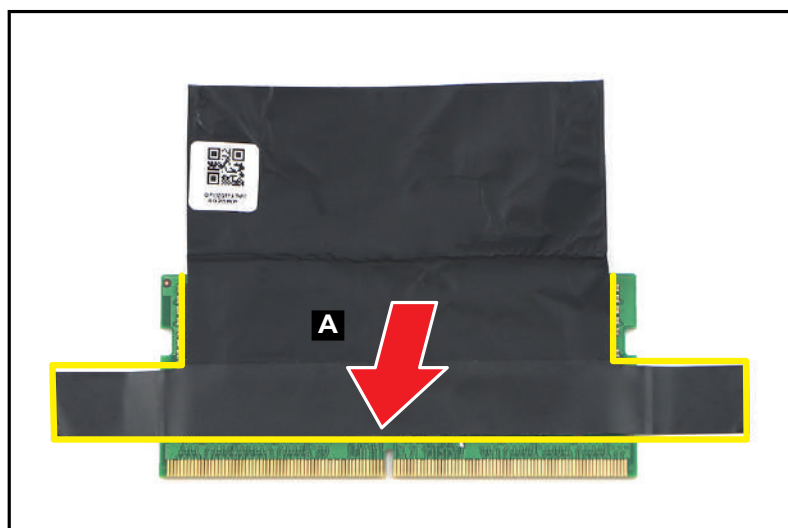

Figure 3-143. Replacing the DIMM Module
1. Attach the composite foil with thermal pad (A) to the DIMM module. Make sure the foil is properly aligned and placed onto its designated location highlighted by the yellow lines Figure 3-143.